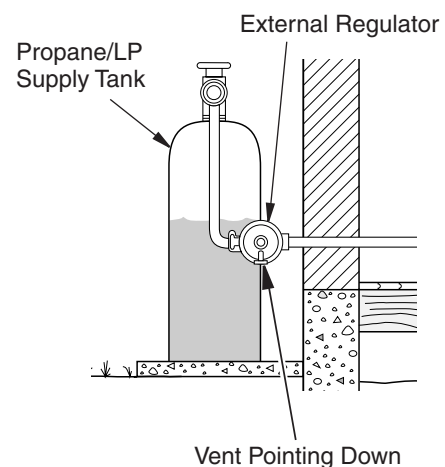

Figure 12 - External Regulator With Vent Pointing Down
3. Connect to gas supply. See *Connecting To Gas Supply*, (see Figure 12, page 11).
For propane/LP units, the installer must supply an external regulator. The external regulator will reduce incoming gas pressure. You must reduce incoming gas pressure to between 11 and 14 inches of water. If you do not reduce incoming gas pressure, heater regulator damage could occur. Install external regulator with the vent pointing down as shown in Figure 12. Pointing the vent down protects it from freezing rain or sleet.